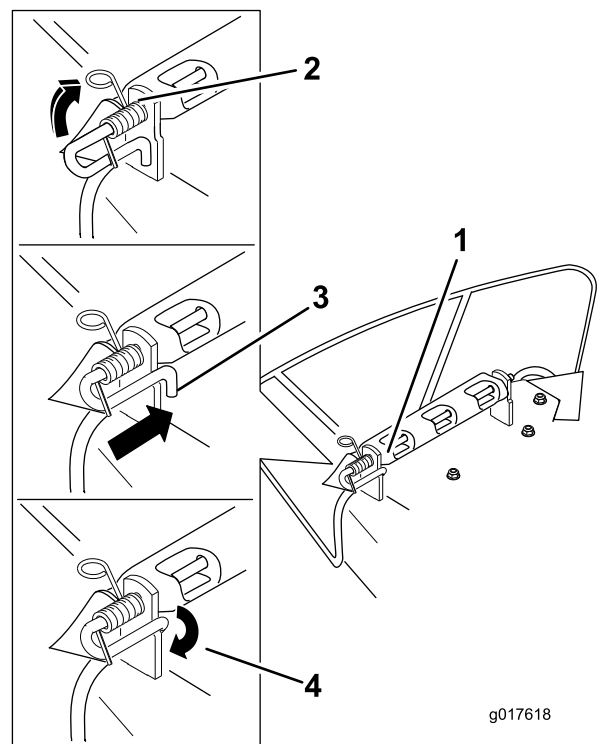

Figure 61
7. Secure the rod and spring assembly by twisting it so the short end of the rod is placed behind the front bracket welded to the deck (Figure 61).
3. Position the new discharge deflector with the bracket ends between the welded brackets on the deck as shown in Figure 61.
6. Lift the loop end of the spring and place it into the notch on the deflector bracket (Figure 61).